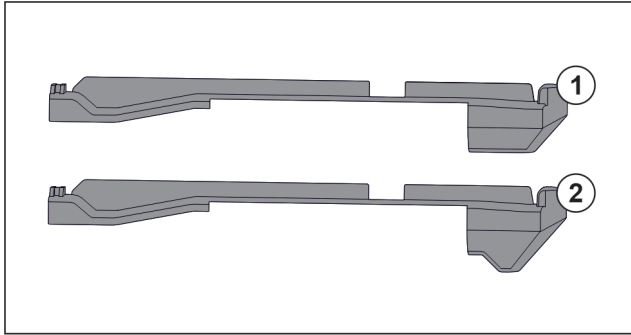

Fig. 123 Comparing attachments
There are two different attachments in the appliance. The attachment above the lowest drawer Fig. 123 (2) has a three-cornered edge. All other attachments Fig. 123 (1) have a straight edge.
- ▶ Fit attachment Fig. 123 (2) with the three-cornered edge above the lowest drawer.
- ▶ Fit attachment Fig. 123 (1) with straight edge in all other positions.